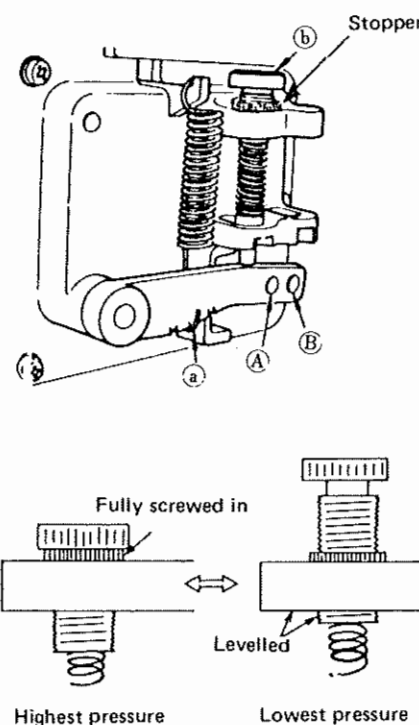

Fig. 12
The pedal stroke varies depending upon whether the connecting rod is attached to ① or ② in Fig. 12. The pedal stroke becomes smaller when the connecting rod is attached to ① than when attached to ②, with resultant increase in the forward or backward treading pressure. Accordingly, when only the pedal stroke is required to be changed, perform adjustment of the pedal pressure after changing the installation position (① or ②) of the connecting rod.